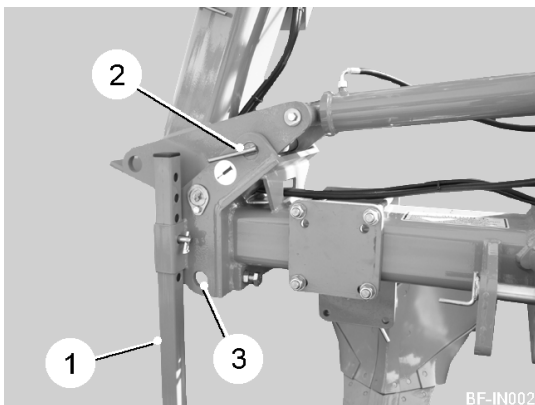
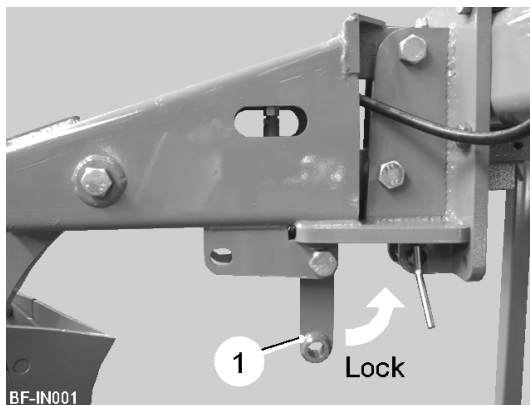

Fig 1
Fig 2
The stands (item 1, fig 1) at the front of the Bedformer must be raised before commencing work. If auto-reset legs are fitted, the leg locking arms (item 1, fig 2) will need to be set into the working position. When disconnected from the tractor always ensure the stands are reset and leg locking arms locked to support the machine.
1. Remove the arm locking pins (item 2, fig 1).
3. Re-position the locking pins into the working position (item 3, fig 1).
1. Remove the arm locking pins (item 3, fig 1).
5. Finally, fit the locking pins into the transport position (item 2, fig 1).